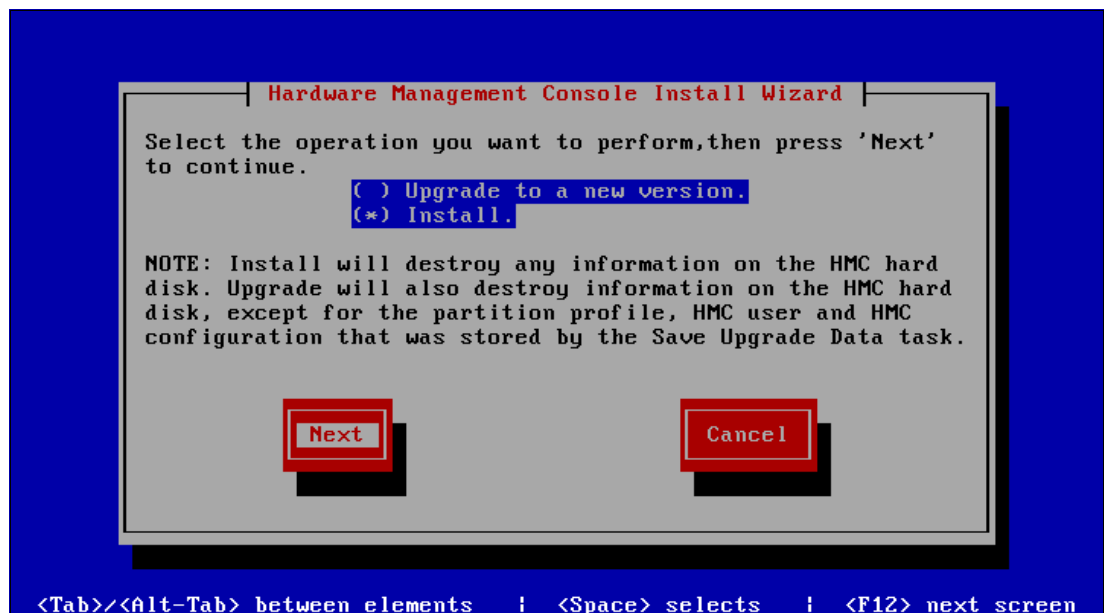

Figure 3-72 HMC Install Wizard selection
2. Select **Install**, and use the tab key to select **Next** (Figure 3-72).